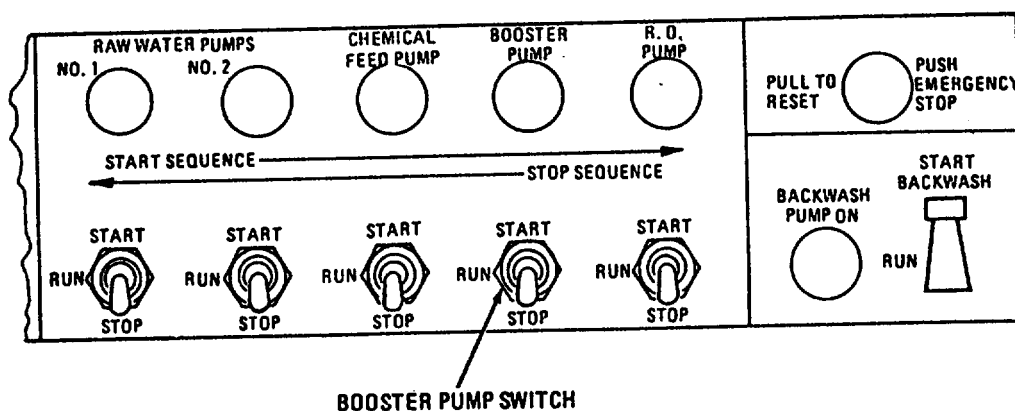

FIGURE 2-55. BOOSTER PUMP SWITCH
- (2) Hold BOOSTER PUMP switch (figure 2-55) upward to START.
- (3) When lamp comes on, release switch.
- (4) Switch will return to RUN.
- (5) Set VENT CARTRIDGE FILTER valve to CLOSE as soon as a full stream of water flows out of vent pipe (located at bottom right-hand of trailer below R.O. pump screen belt guard).